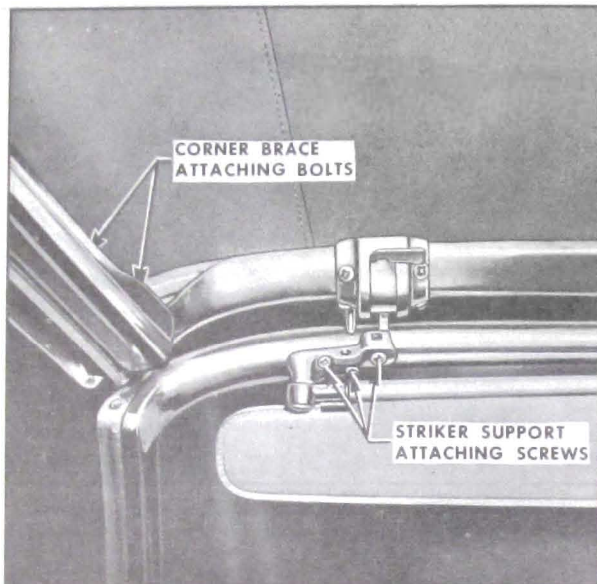

Figure 7-12—Front Roof Rail Adjustment
3. After top is raised, guide studs on front roof rail into striker holes; then engage each folding top locking handle with striker on windshield header (Figure 7-12).